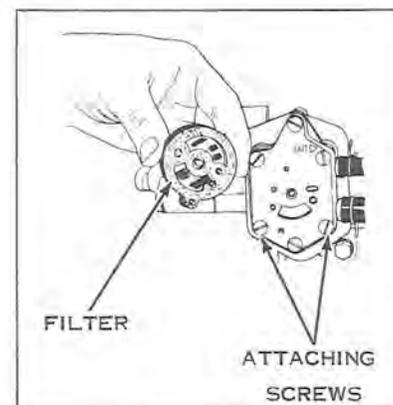

Figure 5-10
- b. Inspect the filter for accumulation of sediment by removing the filter capscrew and the filter cap (see Figure 5-10). Clean the filter cover and fuel connectors in solvent and blow dry.